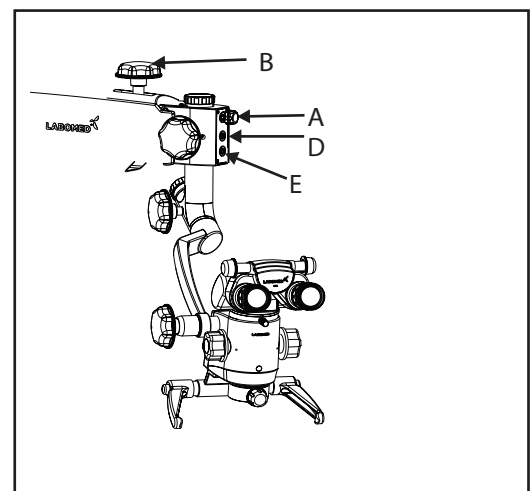

Fig. 8
It is located in front of the suspension arm shown as (A) in Fig. 8. Brightness of field of view can be adjusted as per user comfort using intensity control knob.
This knob helps you to lock the movement of swivel arm at the desired position after initial focusing of the attendance area by turning it clockwise, knob is shown as (B) in Fig. 8 .
10.4 Camera & Potentiometer output in center, shown as D in fig. 8
10.5 Camera output shown as E in fig. 8